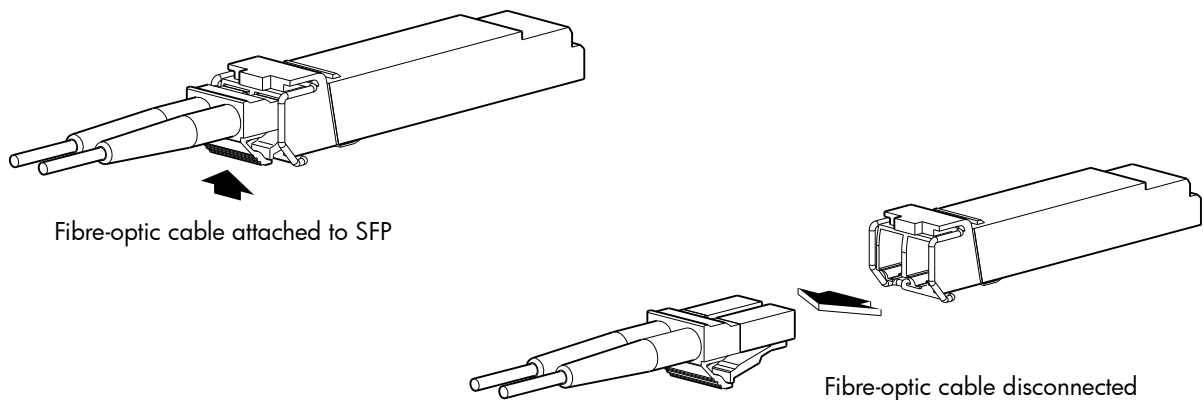

Figure 31 Disconnect fibre-optic interface cable from SFP
4. Remove power and data cables.	<ol style="list-style-type: none"> a. Figure 31 on page 48 (cabling aspects). b. Removing a damaged storage enclosure chassis from the rack on page 52 (step 1).